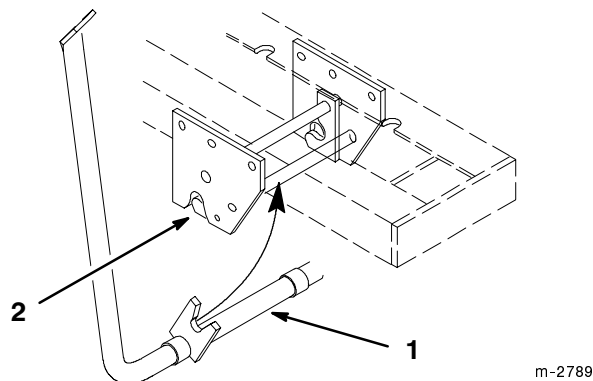

Figure 15
4. Open mid hitch and remove handle support (Fig. 15).